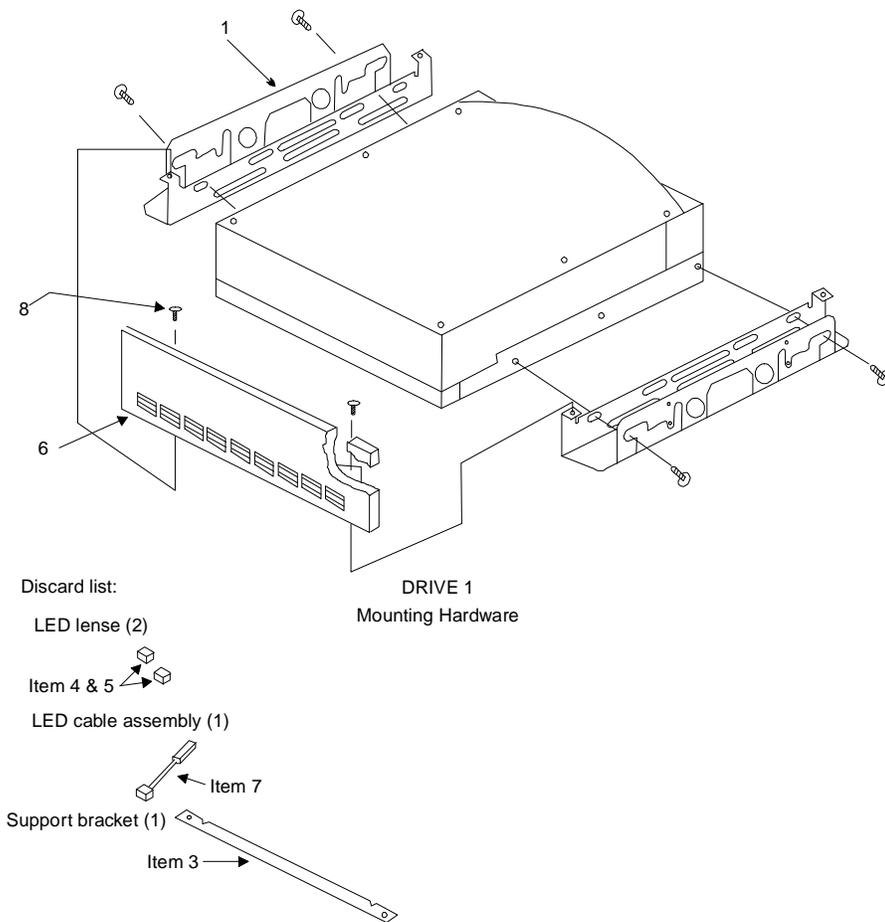

Figure 10-10. Universal Installation Kit
10. Assemble the installation kit according to directions on the box (see Figure 10-10).